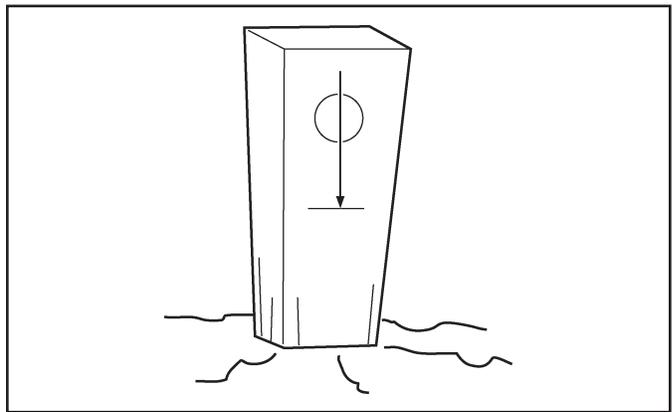

Figure 25. Grade Stake with Elevation Mark
1. Set a minimum of two surveyed grade stakes. The stakes must have elevation information (Refer to Figure 25).